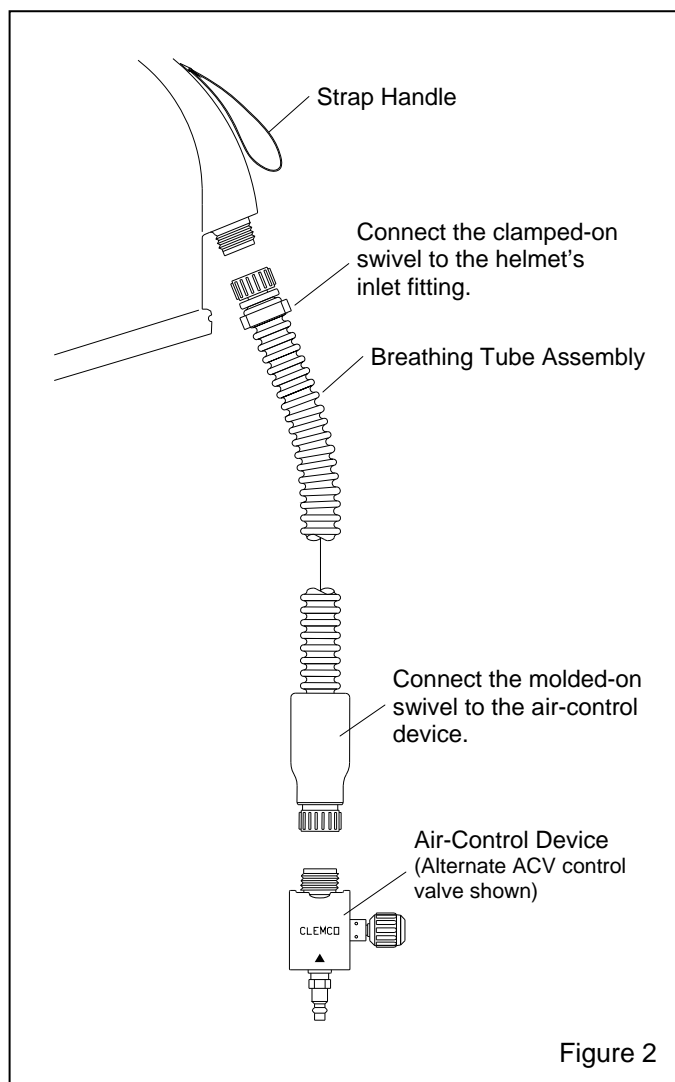

Figure 2
3.3.1 The breathing tube has a clamped-on end and a molded-on end. Attach the clamped-on end to the threaded air inlet fitting at the back of the helmet as shown in Figure 2. Do not over-tighten; hand-tight is sufficient.